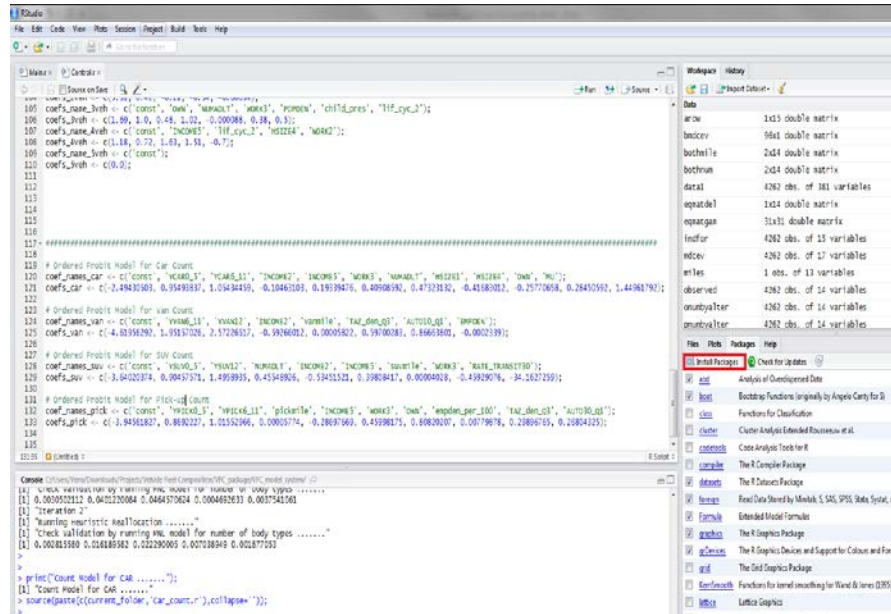

Figure 1. RStudio Dashboard
- The vehicle fleet composition model systems uses several inbuilt packages in R. Please make sure that all the packages are installed before you run the R-codes. The packages can be installed from the lower right sub-pane in the RStudio window named ‘Install Packages’ (see Figure 1) → instructions in slides 26-30.